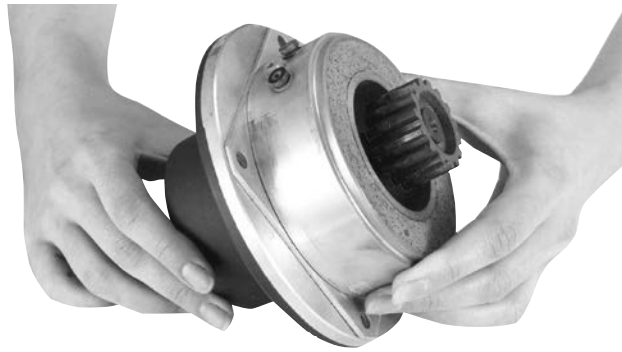

Figure 3
5. Remove the used magnet and discard it. Assemble the new magnet to the end bell. (Figure 3)